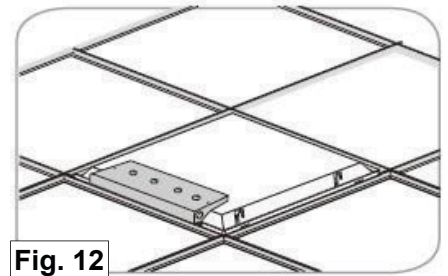

Fig. 12
12. Installation complete (Fig. 12).